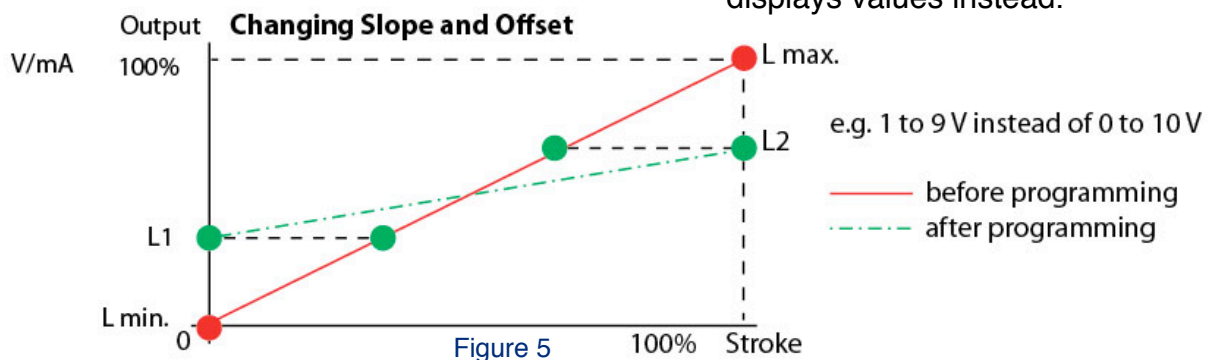

Figure 5
- In high noise environments, maximum noise rejection can be achieved by applying the entire output range to the actual travel length your application requires rather than the entire stroke length of the position sensor. (see figure 5).
- Output voltage can be set to either a minimum or maximum threshold, say 1.0 V (L1) on the low end and 9.0 V (L2) on the high. So by programming limits to the output of the sensor, it can serve as an error detector. If the output is limited in this manner, and voltage falls outside of the set range, a cable fault - open or short - is likely occurring and a process monitor could be set to indicate a fault under these circumstances. (See figure 5).